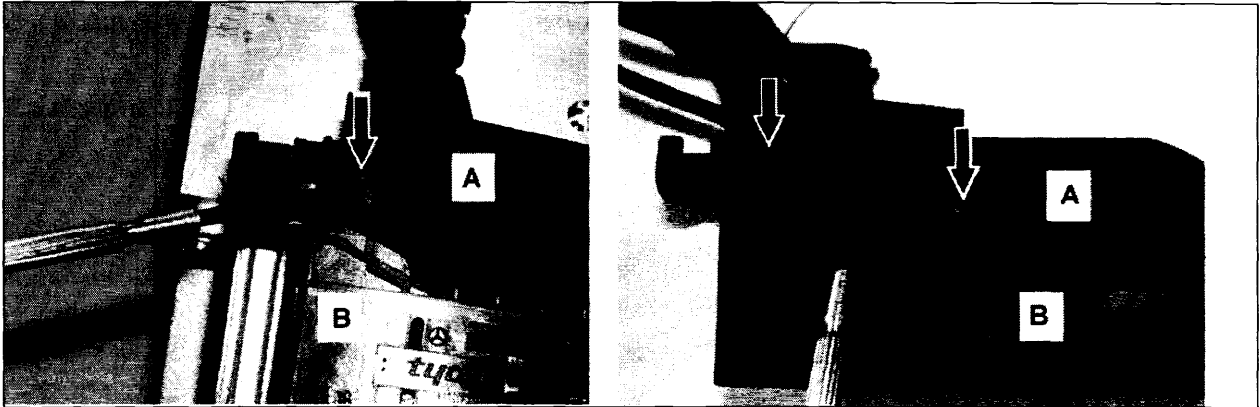

Figure 11
10. Remove SBC connector housing cover (A, Figure 11):
- Using a small screw driver, carefully pry cover (A) away from locking lugs (arrows) until cover (A) disengages.
- Remove the cover (A) from the housing (B).
16. Reinstall connector cover (A, Figure 11) in reverse order.